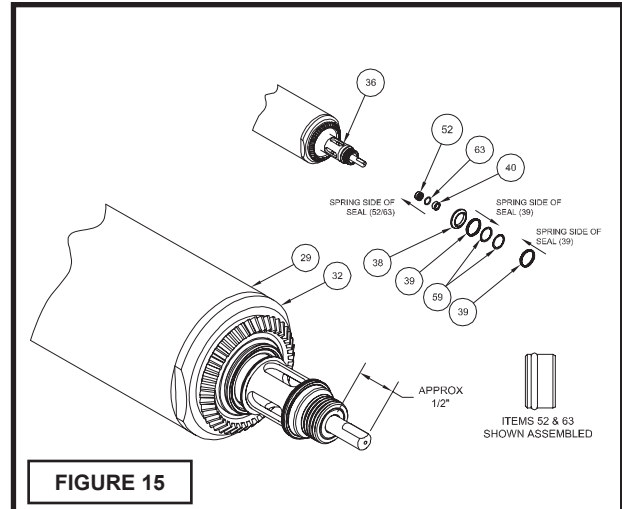

FIGURE 15
**NOTE:** Cap (32) should completely thread into housing (29), see Figure 15. If it does not then go back and properly tighten ring clamp (30), see Figure 13.
See Figure 15.
Lubricate o-ring (63) and install output seal (52). Using bearing (40) push seal (63/52) into the shaft (36). Install bearing (38) onto shaft (36). Lubricate rod seal (39) and install onto shaft (36). See Figure 15 for correct orientation of seal. Install spiral locks (59) into grooves on shaft (36). This part of the assembly is complete.